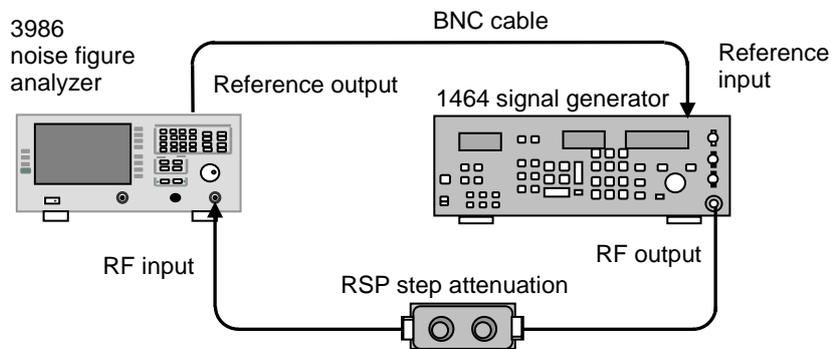

Figure 8.4 Test Block Diagram of Noise Figure Measurement Range and Measurement Uncertainty
Step 1. Connect the test equipment as shown in Figure 8.4 and warm it up for 30 min.